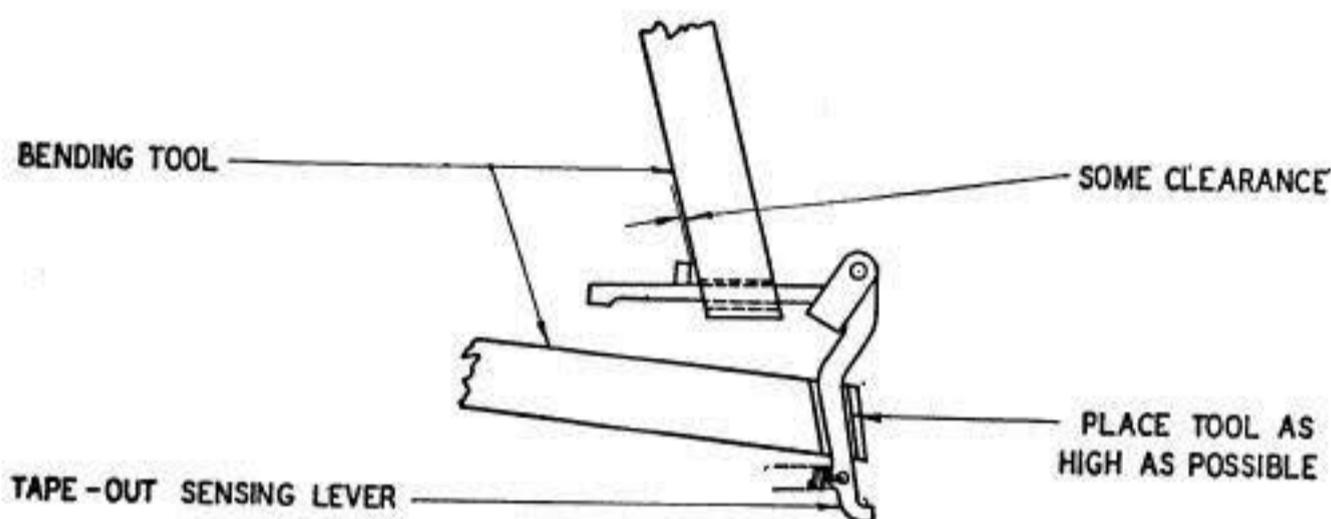

Fig. 8
(1) To adjust, bend the horizontal leg of the tape-out sensing lever, using a TP116799 bending tool. Avoid damaging the pin with the bending tool. **Fig. 8**